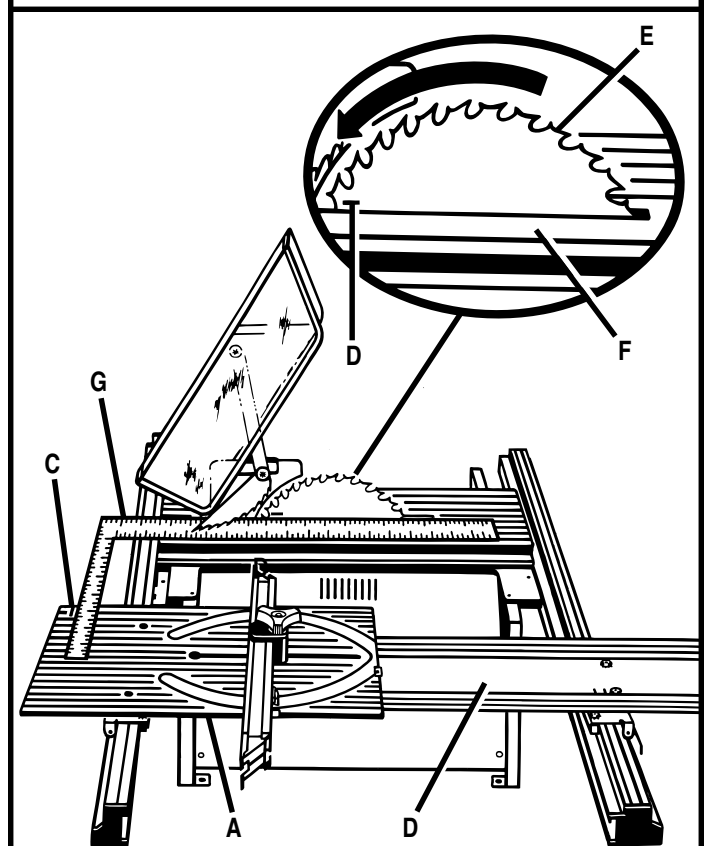

Figure 51: Miter Table Alignment
5. Remove framing square and slide miter table to the rear of miter base as far as it will go. *See Figure 51.*